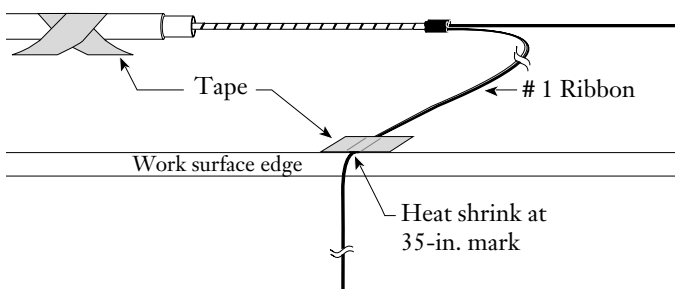

Figure 11
**6.12** Starting with the first ribbon, tape it down so that the heat shrink at the mark is positioned at the work surface edge (Figure 11).